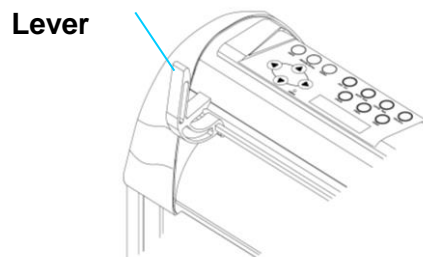

Figure 4-9
Step 1 Use the lever on the upper right side of the cutting plotter to raise or lower down pinch rollers. Pull the lever forward until it makes a clicking sound then the pinch rollers are raised (Figure 4-9).